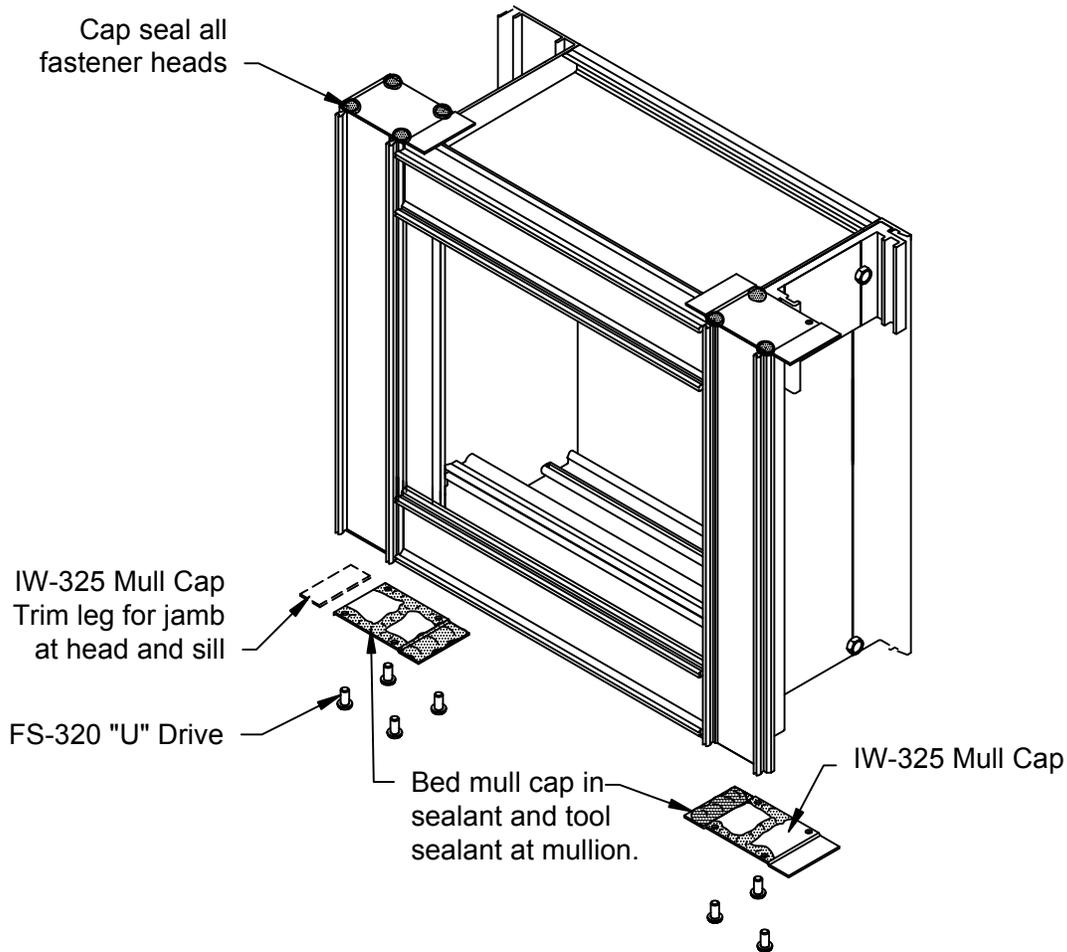

FIGURE 9
- 2.7 After units are assembled. Install mull caps to each end of vertical mullions and jambs. IW-325-01 mull cap will be bed in sealant and attached to mullion with FS-320 drive screws. Sealant must be tooled around inside of glazing pocket and on mating surfaces between mull cap, head/sill and verticals. SEE FIGURE 9 . Note: SSG mullions will not use mull caps. Bridges will be field installed at SSG verticals as noted on sheet 30.